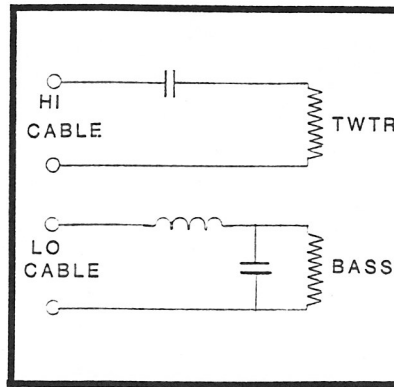

Figure 3
2. METHOD #2: Two stereo amps or four mono amps. This is a type of bi-amplification without an electronic crossover. Figure 3 shows the schematic of the speaker crossover.